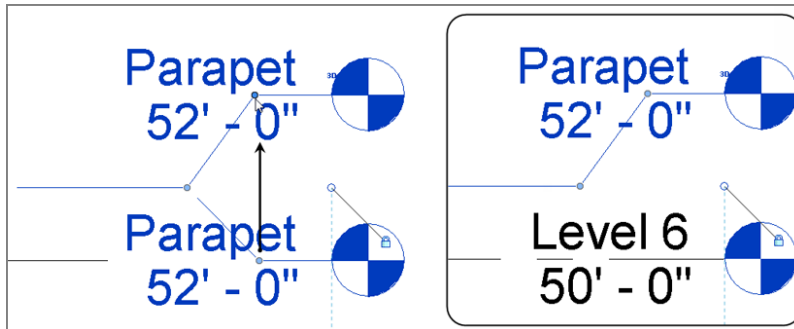

FIGURE 3.14: Dragging the level to a new position by using the grips provided
3. Now that you've added the elbow, you need to move it. Notice the blue grip at each bend point. Pick the blue grip, as shown in Figure 3.14, and drag the Parapet level out of the level below.